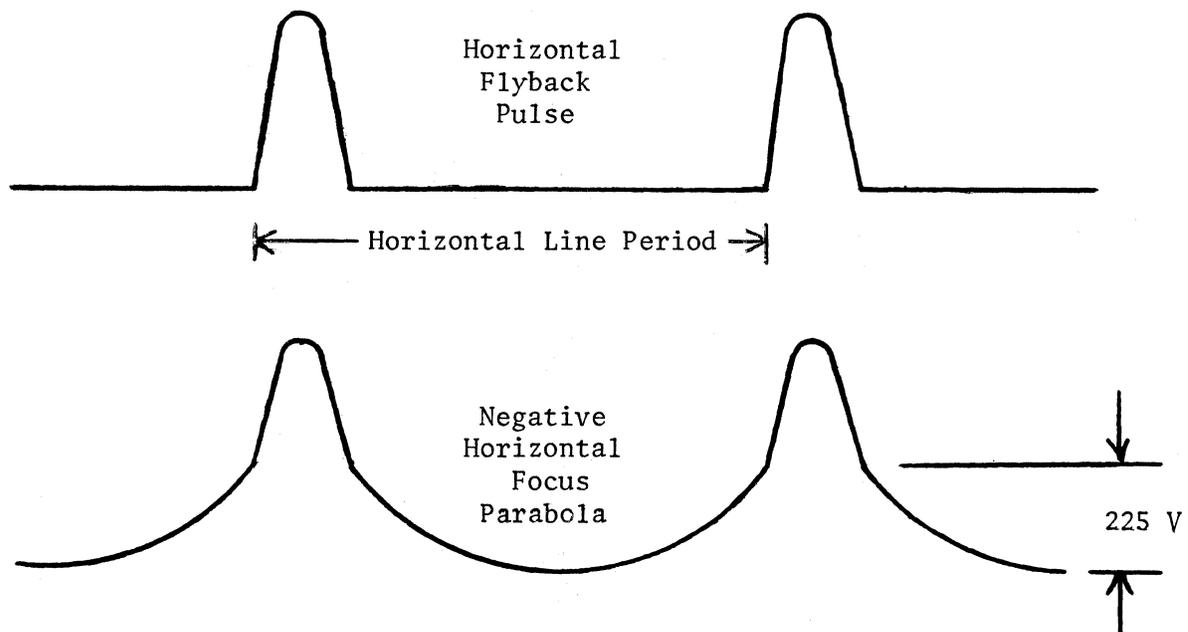

Figure 5.2 Waveforms for Step 2 and 5 of Section 5.1.6
2. Attach the oscilloscope probe to the banded end of CR104 (TP111) to monitor the horizontal flyback pulse. (Set the trigger mode to internal sync and the time base to $10\mu\text{s}/\text{div.}$) Note the duration of the horizontal line period. Refer to the horizontal flyback pulse in Figure 5.2. Disable the incoming horizontal sync signal. Adjust the free running period of the horizontal oscillator $2\mu\text{s}$ longer than the synchronized horizontal line period by means of horizontal frequency adjust R108. Reconnect the horizontal sync signal.
6. Attach the oscilloscope test probe to the point of intersection of L102, C142, C143, and C144 (TP124). Adjust the slug in L102 for a negative horizontal parabola of 275 V p-p. Do Not include the amplitude of the added flyback pulse. The slug should initially be adjusted to the lower end of the coil. The final adjustment is reached with the slug partially extending out the lower end of the winding. Turn power to monitor off and then back on. Check that the phase of the horizontal parabola has not shifted, i.e., the waveform has not flipped over. If it has, repeat adjustment. Refer to the negative horizontal focus parabola in Figure 5.2.